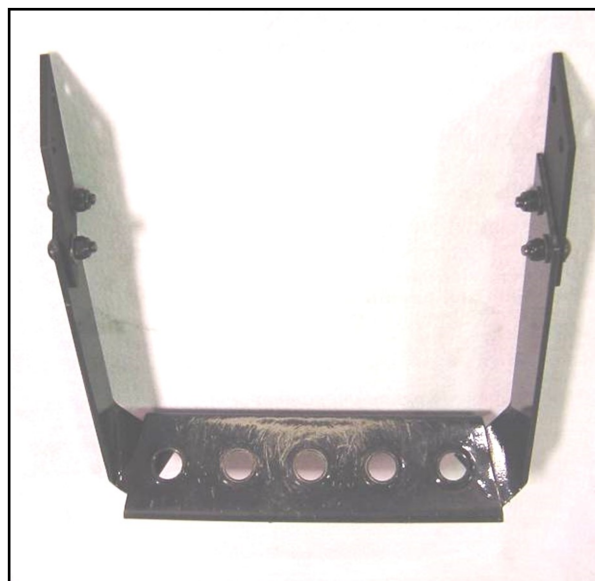

Fig. 16.1 (step and step extensions)
16.1 This part is optional. Use at the installer's discretion. Remove the OEM step from the tractor. Save the hardware. Per figures 16.1 and 16.1a, attach each of the two supplied step extensions to the OEM step oriented as shown. Use the following hardware per side as shown in fig. 16.1: two 5/16" x 1" hex head bolts, two steel washers, and two locknuts. Locknuts to be inboard as shown. Note: tighten bolts very, very tight to prevent pivoting. Re-install the step to the tractor using the original hardware that was just removed. Again, tighten these bolts very tight to prevent movement.